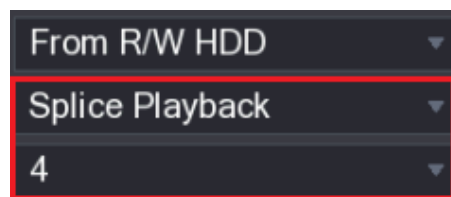

Figure 5-113
**Step 2** In the **Search Type** list, select **Splice Playback**; In the Split Mode list, select **4, 9, or 16**. See Figure 5-113.